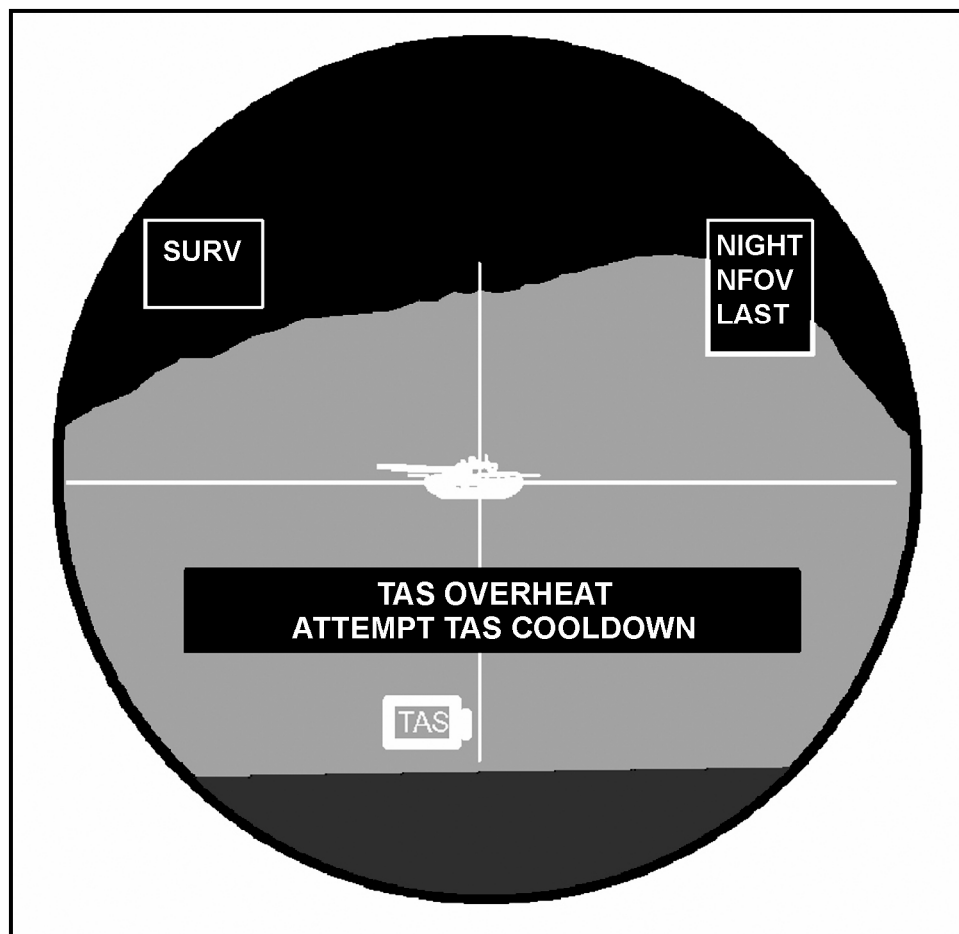

Figure E-3. TAS overhear message.
(1) If the system fails PBIT, discontinue the mission and turn the FCS in for maintenance as soon as possible (ASAP).
(2) If the system passes PBIT and this message reappears at any time thereafter, discontinue mission and turn FCS for maintenance ASAP.
c. **TAS OVERHEAT – ATTEMPT TAS COOLDOWN.** This message appears when a temperature sensor in the TAS says the TAS is getting too hot (Figure E-3). Follow the same corrective procedures as for the FCS.